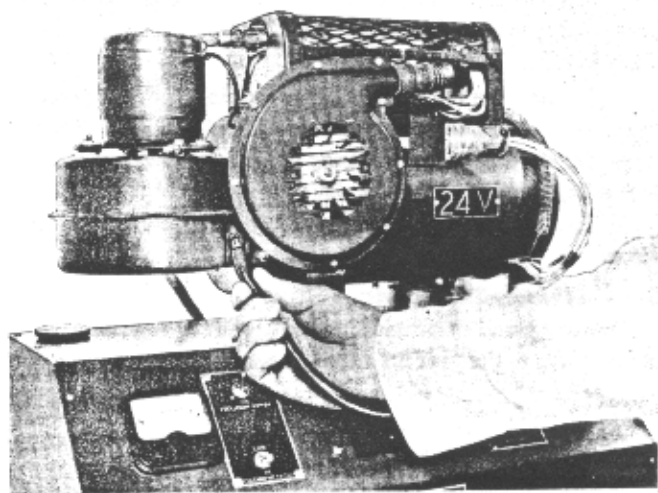

Figure 55—Ventilating Air Blower Test
1. Remove screw from the side of the ventilating air blower housing and insert the tubing adapter in this hole, connecting the velometer into the ventilating air stream (see Figure 55). Turn the heater switch to ON.